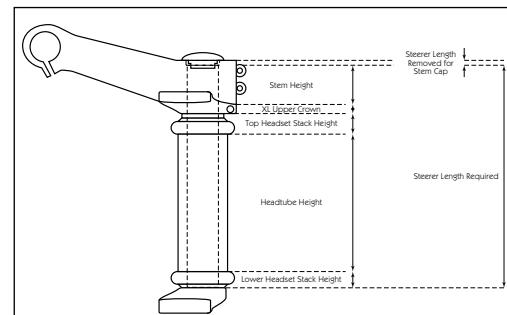

Fig. 3
3. The steerer tube may need cutting to proper length. To cut the steerer tube, removal of the upper tubes are required. This is necessary otherwise the upper tubes will be in the way when cutting the steerer tube to proper length. The steerer tube length is determined by the following parts: XL upper crown steerer clamp length, stem steerer tube clamp length, frame head tube length and top and bottom headset stack height (see Fig. 3). To ease in the assembly, do not install the XL upper crown on to the upper tubes until the steerer has been cut to the proper length and the lower crown has been fastened in the required position. HINT: MEASURE TWICE AND CUT ONCE!